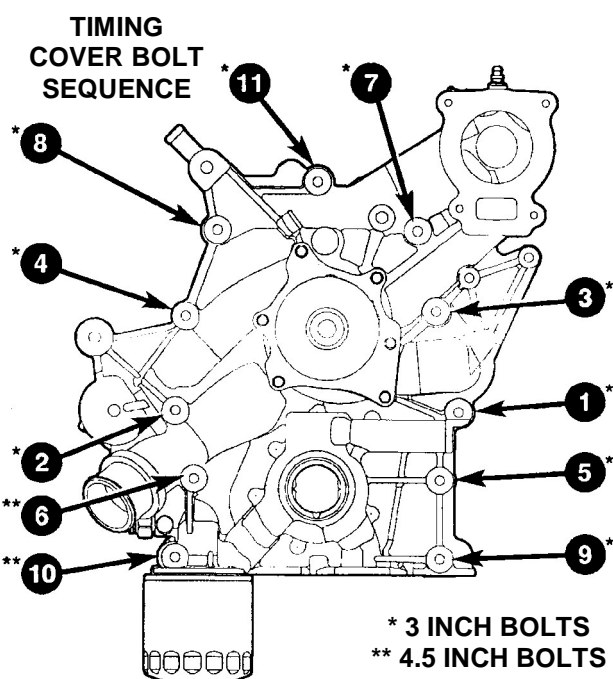

Figure 9
49. Install all timing chain cover bolts and tighten to 100 in-lbs (11 N·m) using the sequence found in Figure 9, then using the same sequence, tighten the bolts to 200 in-lbs (22 N·m).